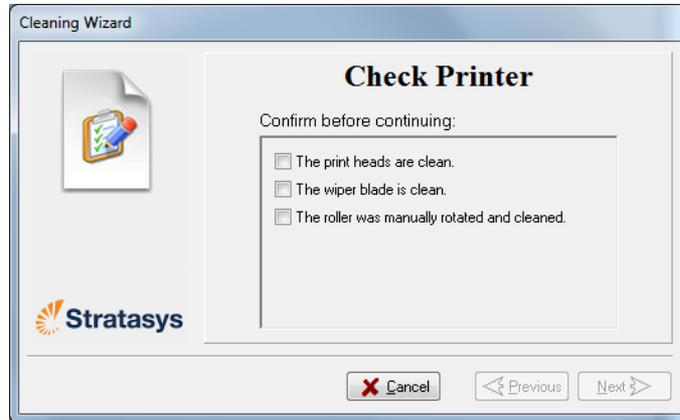

Figure 6-27 Wizard screen during cleaning tasks
15. When you have finished cleaning, select the confirmation check boxes in the wizard screen (see Figure 6-27) and click Next.